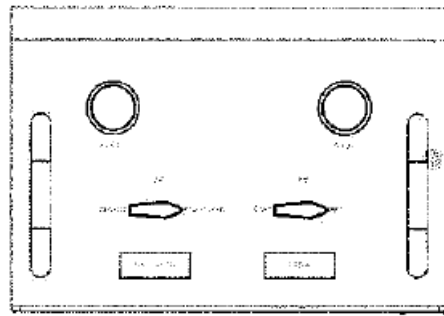

Fig.9
Start the engine, and check the coolant level. If the coolant level drops, turn the left panel valve "AIR FLOW" to the "Pressurize" position, the right panel valve "TANK" to the "New" position (Fig.9), open filling hose valve (Fig 8), and then open shop air valve to add more new coolant to the vehicle through overflow tank.
3. Start the engine, and check the coolant level. If the coolant level drops, turn the left panel valve "AIR FLOW" to the "Pressuriz" position, the right panel valve "TANK" to the "New" position (Fig. 9), open the filling hose valve (Fig.8), and then open shop air valve to add more new coolant to the vehicle through overflow tank.